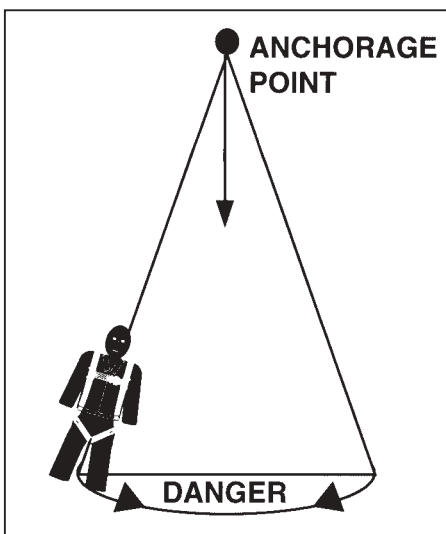

FIGURE 4
- 4.1 Always locate the rope grab overhead to reduce the possibility of swing falls. (Figure 4)